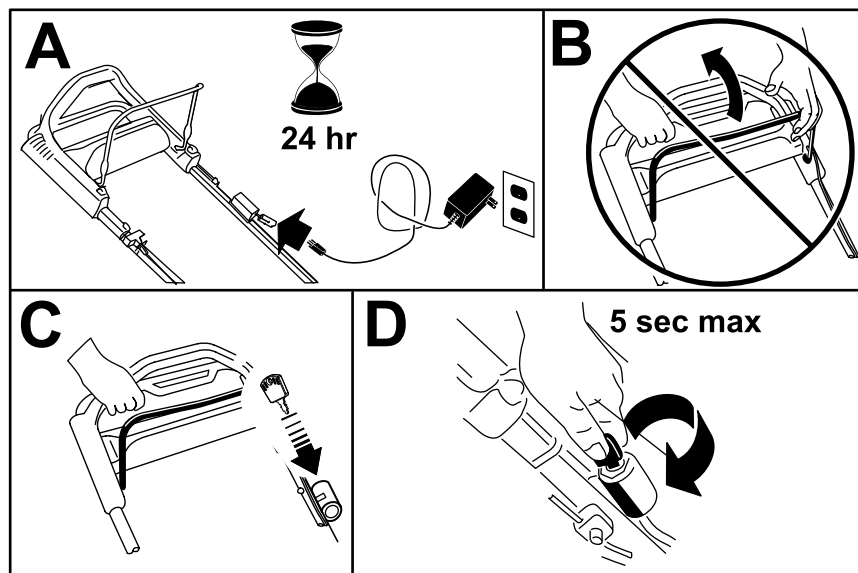

Figure 15
1. Charge the battery for 24 hours before using the machine for the first time (A of Figure 15).
Important: Do not attempt to start the engine with the blade-control bar engaged; otherwise, you may blow the fuse (B of Figure 15).
2. Insert the ignition key into the ignition (C of Figure 15).
3. Turn and hold the ignition key to the Start position; when the engine starts, release the key (D of Figure 15).